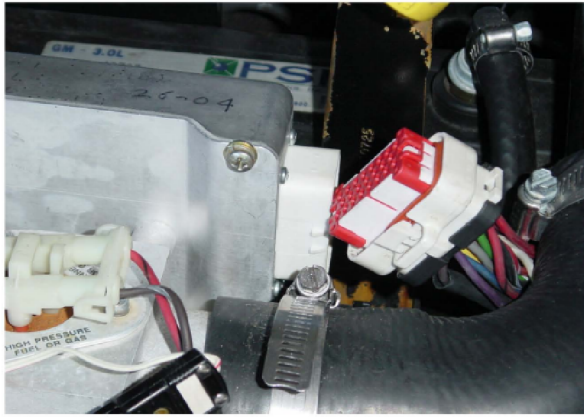

FIG. 1
1. Disconnect the white connector from the ECU. Refer to Fig. 1.
17. Plug the white connector into the ECU. The connector should easily plug into the ECU. Do not force the connector into the ECU. Refer to Fig. 1.